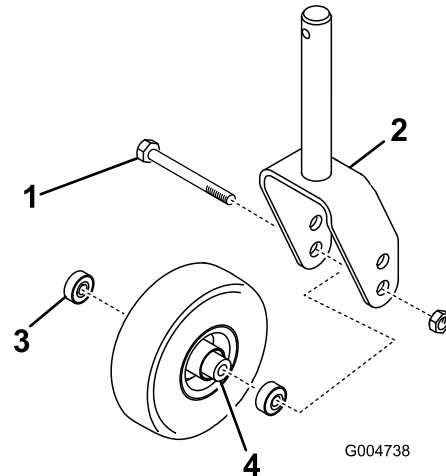
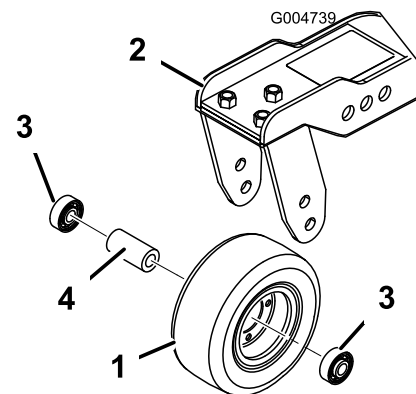

Figure 109
Figure 110
1. Remove the locknut from the bolt holding the caster-wheel assembly between the caster fork (Figure 109) or the caster-pivot arm (Figure 110).
2. Remove the bearing from the wheel hub and allow the bearing spacer to fall out (Figure 109 and Figure 110).